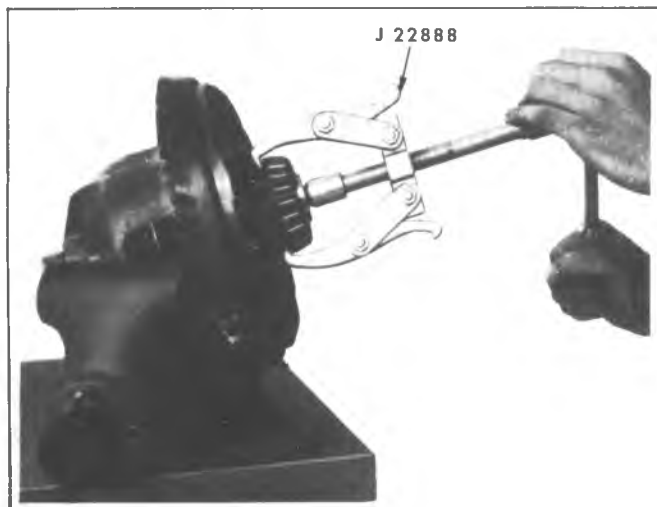

Fig. 3B-Differential Bearing Removal
1. Install Tool J-22888 and Adapter Plug J-8107-4, assuring puller legs are fitted securely in notches in case and against bearing cone, as shown in figure 3B.